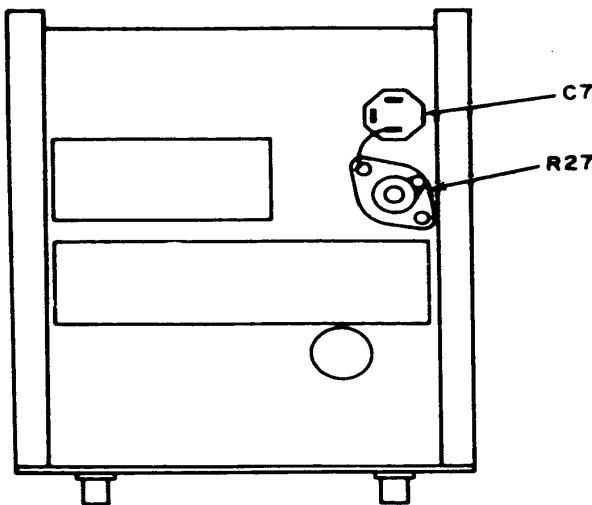

Figure 3. Model 450A.
**a. Performance Check.** Connect multimeter to junction of R27 and C7 (fig. 3) and chassis ground. If multimeter does not indicate between 6.24 and 6.36 Vdc, perform **b** below.
**b. Adjustments.** Adjust R27 (fig. 3) for a 6.30 V indication on multimeter (R).